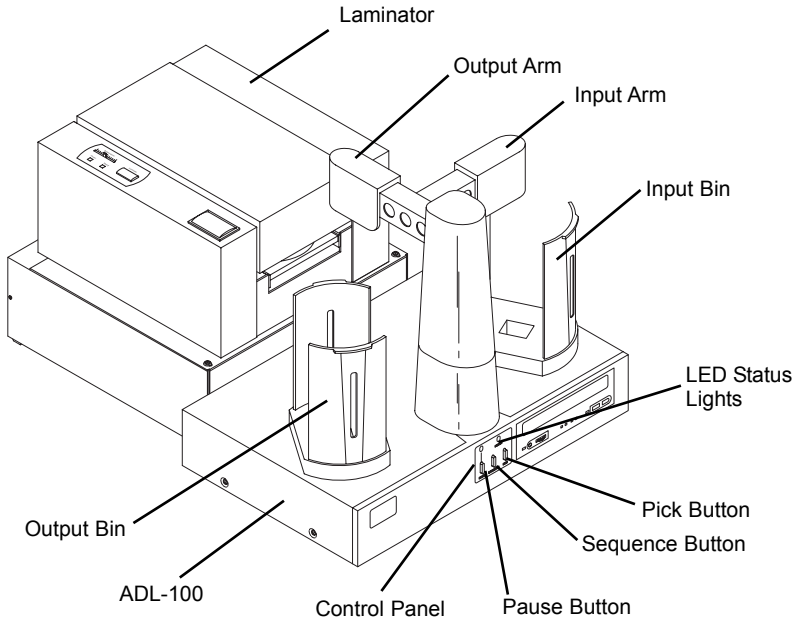
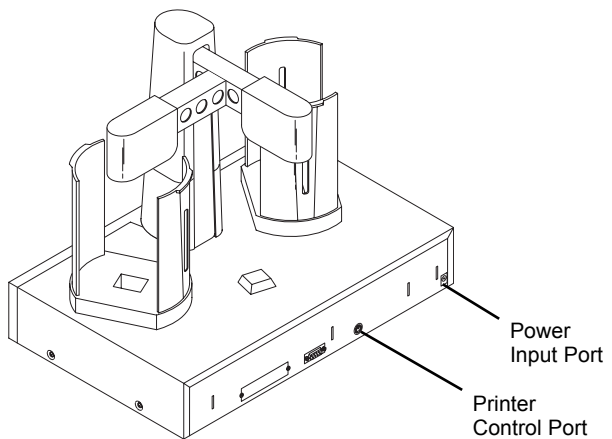

Figure 1: ADL-100 and Accent Disc Laminator
Figure 2: ADL-100 Rear Panel
Illustrated in Figure 1 is the ADL-100 with an Accent Disc Laminator attached. Figure 2 shows the rear panel of ADL-100.
1. In the ADL-100 shipping box you will find the **Input and Output Bins**. Place the Bins in their correct places as shown in Figure 1.